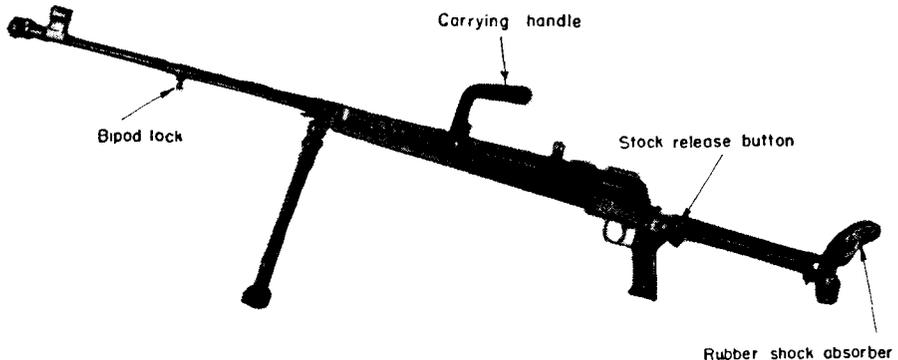

Figure 21.—*Pz.B.* 39 (antitank rifle).
*Pz.B.* 39, a later model of the *Pz.B.* 38. (See figs. 21 and 22.)
(2) *To load and fire*.—Press the bipod lock (see fig. 21), and adjust the height of the bipod by turning the adjusting screw located underneath the pivot point of the bipod. Press the stock release button and snap the shoulder stock into place. Move the safety lever to the “fire” position. Push the pistol grip forward and downward, thus depressing the breechblock. In-